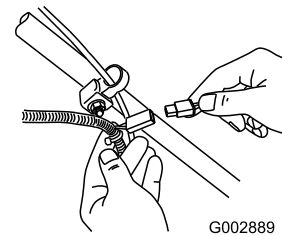

Figure 34
1. Connect the charger to the mower wire harness located below the ignition key (Figure 34).